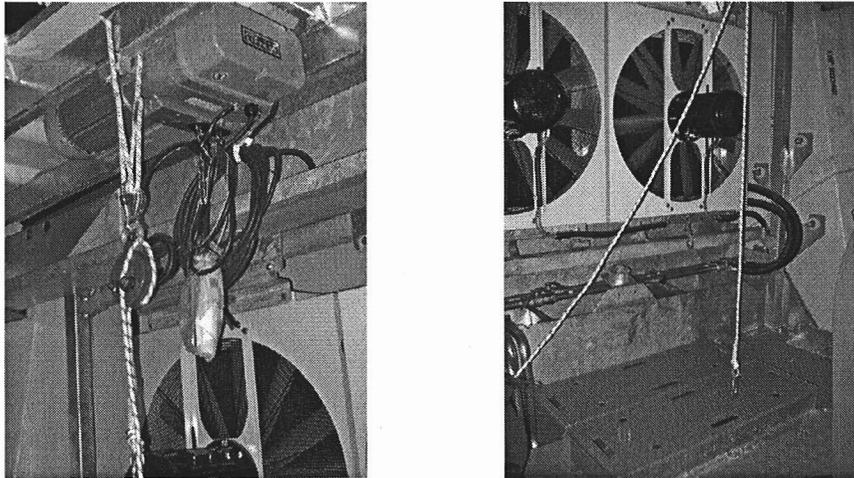

Fig. 32 Fastening the descender for K08 gamma
- Attach the webbing sling or work-positioning lanyard above the crane hatch, see Fig.32